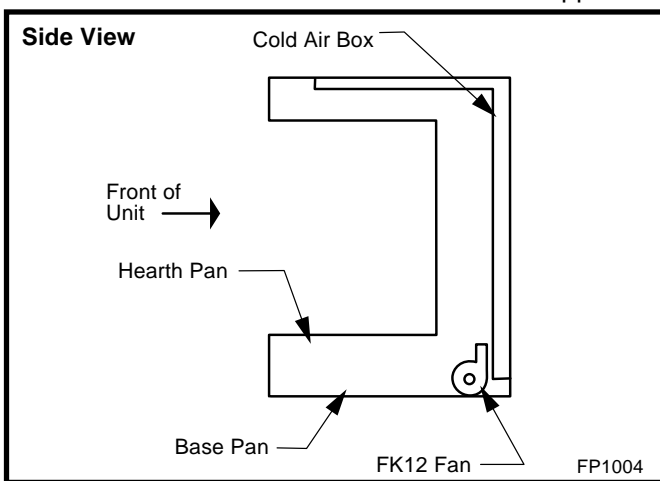

Fig. 72 FK12 Fan Kit placement.
2. Install FK12 fan in back of unit between hearth supports. (Fig. 72)